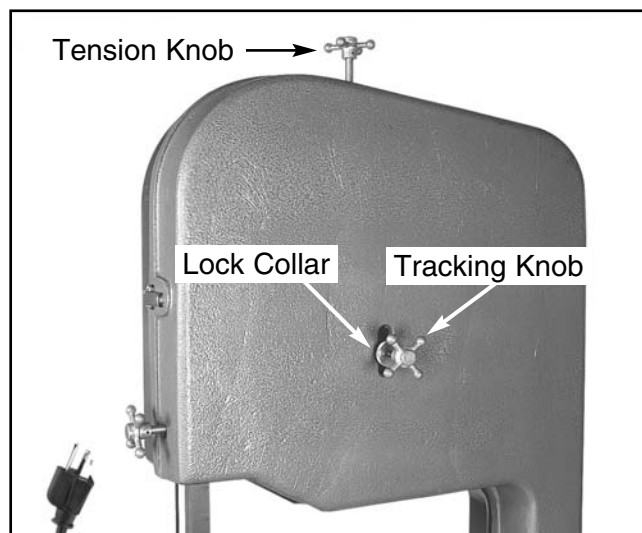

Figure 17. Tracking and tension controls.
2. Loosen the lock collar on the tracking control knob shown in **Figure 17**. Turn the tracking control knob clockwise/counterclockwise while turning the upper wheel by hand until the blade stays centered on the rubber tire.